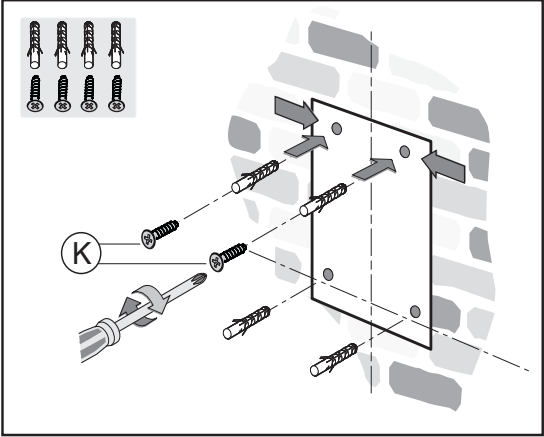

Fig.3
- Mark the fixing holes and cut them into the material (**Fig.3**).
- Fix the 2 top screws **K** and screw anchors (**Fig.3**), without tightening them completely.